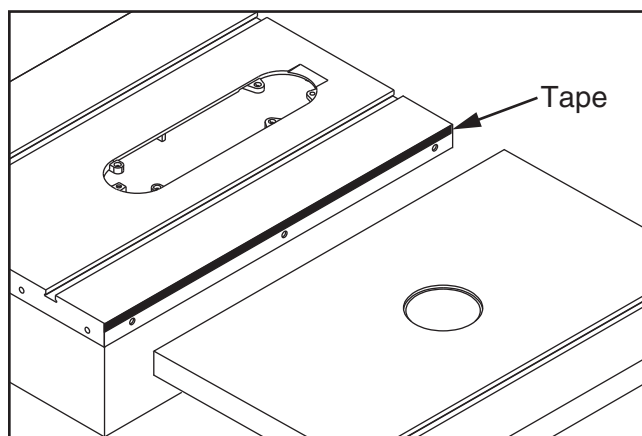

Figure 16. Using tape to shim router table down.
- If outside edge of router table wing tilts up, remove router table wing and place strips of masking tape along *top* edge of extension wing to shim router table wing down and even with table saw from side to side (see **Figure 16**).